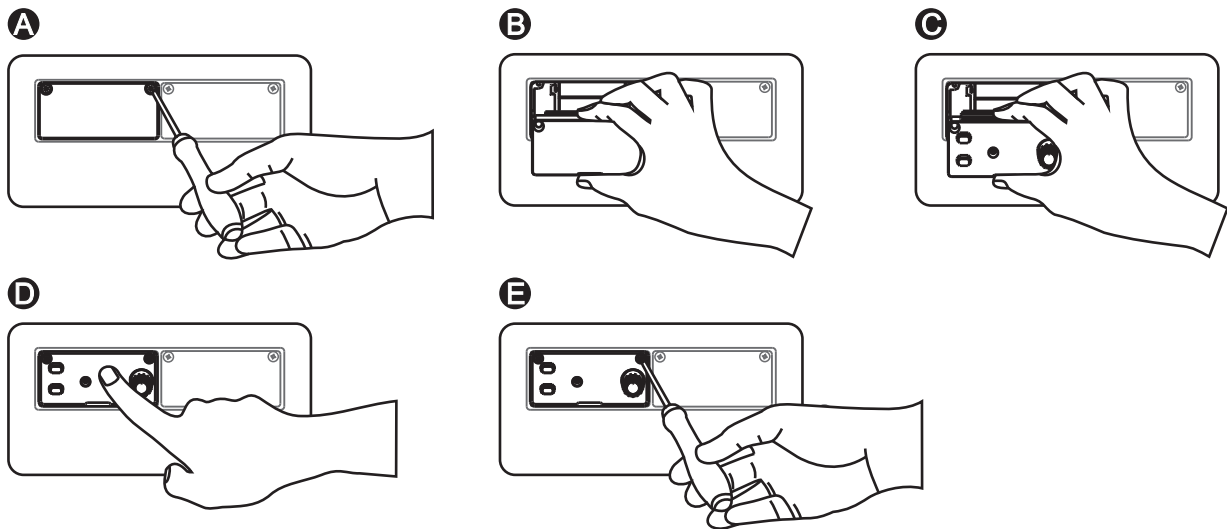

Fig. 10
1. Installation or replacement of wireless receiver modules. Fig. 10: